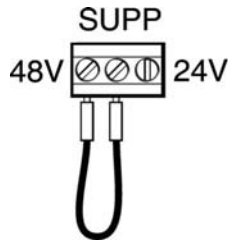

Figure 12 – Identification of the motor voltage configuration terminal
4. Changing the motor voltage is achieved by positioning the link wire that is joining the 'SUPP' terminal (supply to PCB) to the '48 V' terminal, such that the link wire now joins the 'SUPP' and the '24V' terminals. Refer to figure 12.